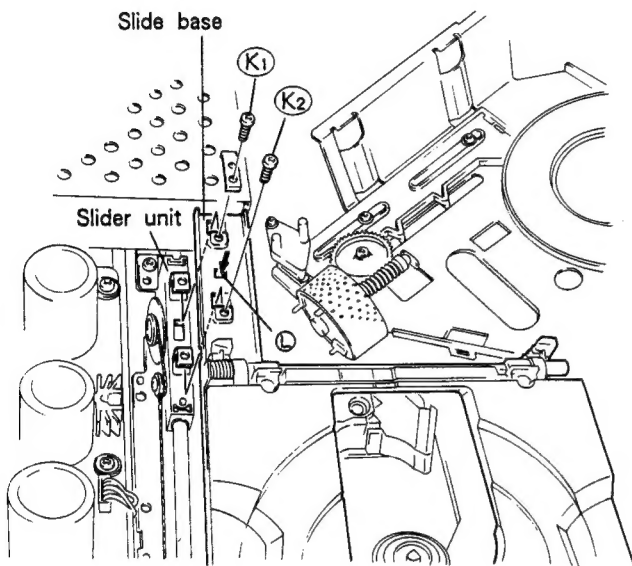

Fig. 2-3.
3. Remove the fixing screws \textcircled{K}_1 and \textcircled{K}_2 of the tray assembly and remove the slide base from the slider unit of the loading mechanism assembly by pushing the claw \textcircled{L} . (Refer to Fig. 2-3).